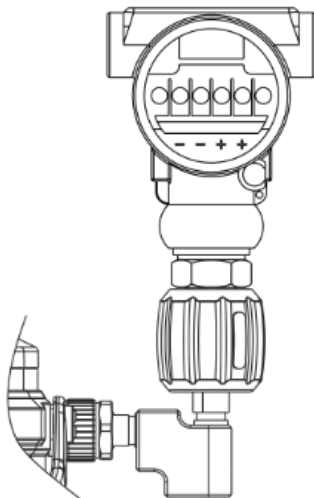

Figure 4 Connect to DUT
As shown in Figure 4.
- (1) Output the pressure using internal module , please refer to the Figure 4 to connect the UUTs.
- (2) If wants to use external modules  or , need a ADT107 manifold (Optional), and please follow the below steps to make the connection.